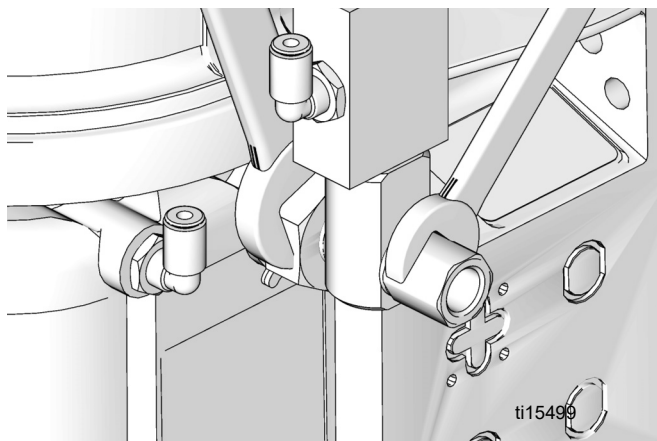

FIG. 6
12. Use two wrenches to tighten the banjo fitting (3). Place one wrench on the pump element (d) and the second wrench over the end of the banjo bolt (3). **ONLY** tighten the banjo bolt (3) while holding the pump element (d) securely in place. Torque banjo bolt (3) to 35 ft. lbs (45.7 N•m). Take care to not over-tighten (FIG. 6).